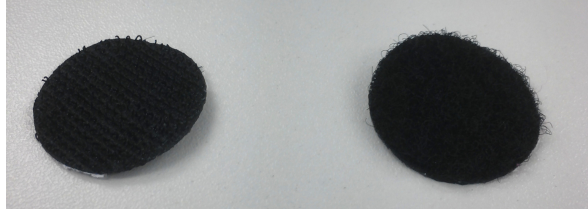
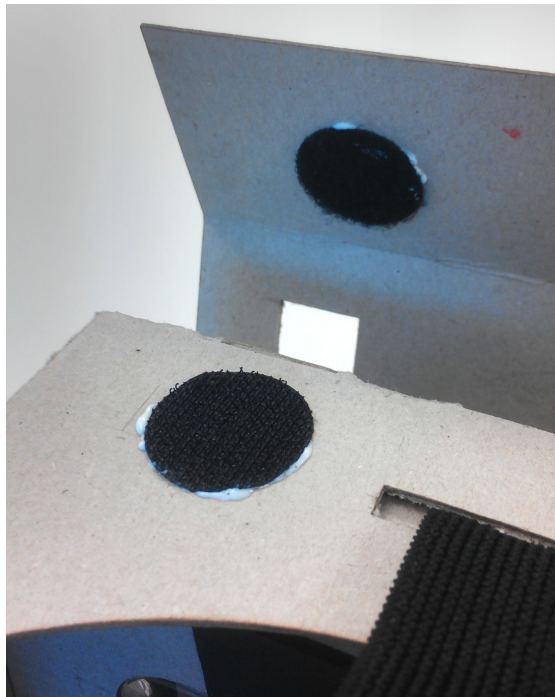

Figure 1.0.39: male (left) and female (right) Velcro tapes
Figure 1.0.40: Glueing the tapes onto the cardboard
17. As the next step take one male and one female Velcro tapes (see figure 1.0.39). Glue one tape on the top of the cardboard and it's counterpart on the end of the flap of the cardboard, as shown in figure 1.0.40. It's important that the position of both tapes have to match when the flap is closed, else the flap won't stay closed.